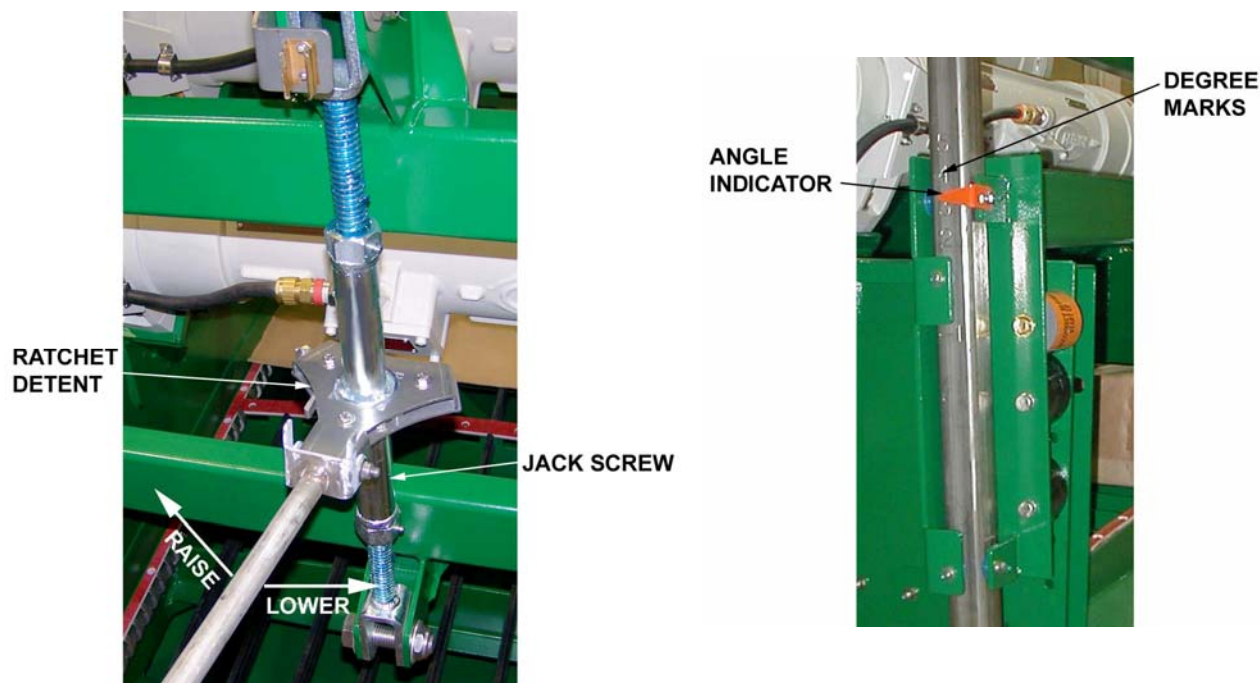

Figure 4-5 Manual Jack Screw Lifting Mechanism Adjustment
1. Pivot operating handle (Figure 4-5) downward until horizontal, if not already done, and set jack screw ratchet detent to either raise or lower discharge end of screen frame.